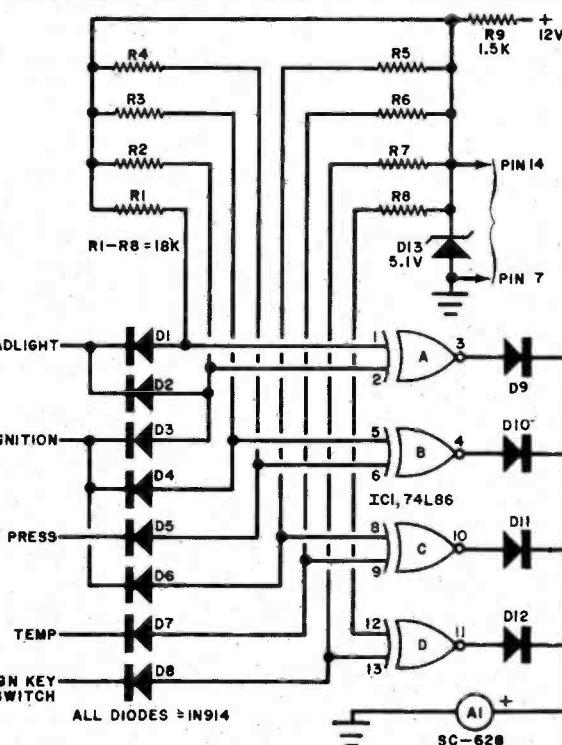

Fig. 1. Points to be monitored are connected to exclusive OR gates through diodes.
**Circuit Operation.** As shown in Fig. 1, the Logic Alarm uses a single 74L86 low-power quad exclusive-OR gate that receives power from the car's